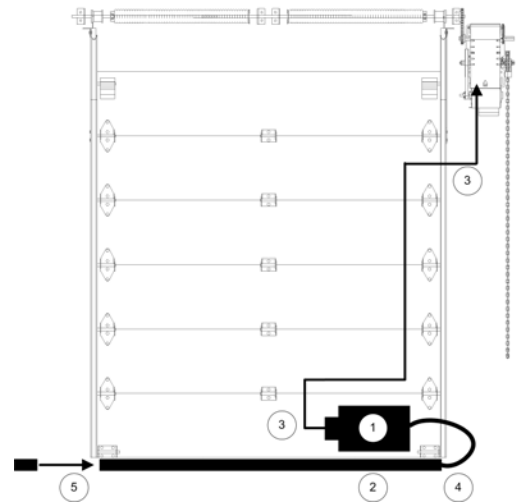

Figure 26 - Reversing Edge
1. Place the air switch in position, refer to Figure 26.
1. Place the junction box in position, refer to Figure 26.